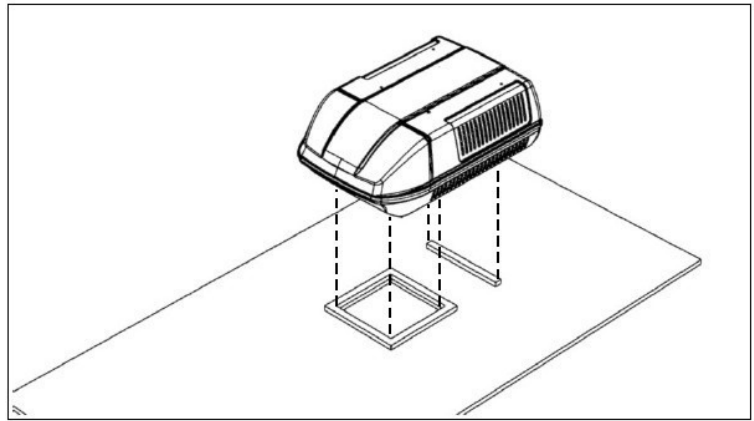

Fig 6- Position the unit over the roof gasket and set down gently.
- Position the unit over the gasket so that the corners of the square hole in the RV roof line up with the corners of the square hole underneath the air conditioner (Fig 6).
8. Mating and un-mating the completed connector is illustrated in Figure 6.